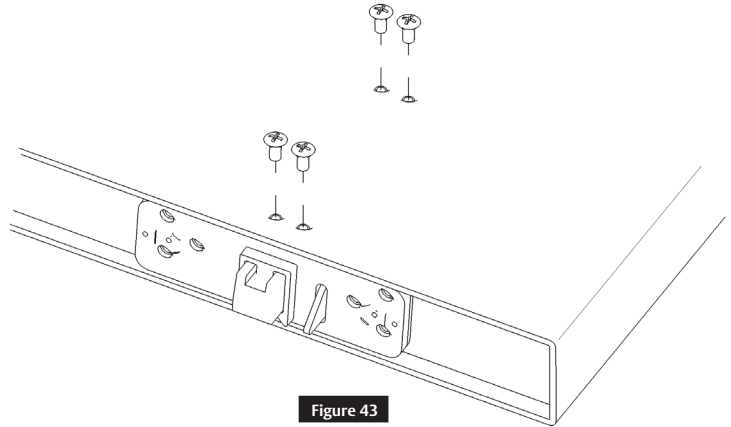

Figure 43
1. Install four (4) 10-24 oval head screws on the face of the door. (Figure 43)